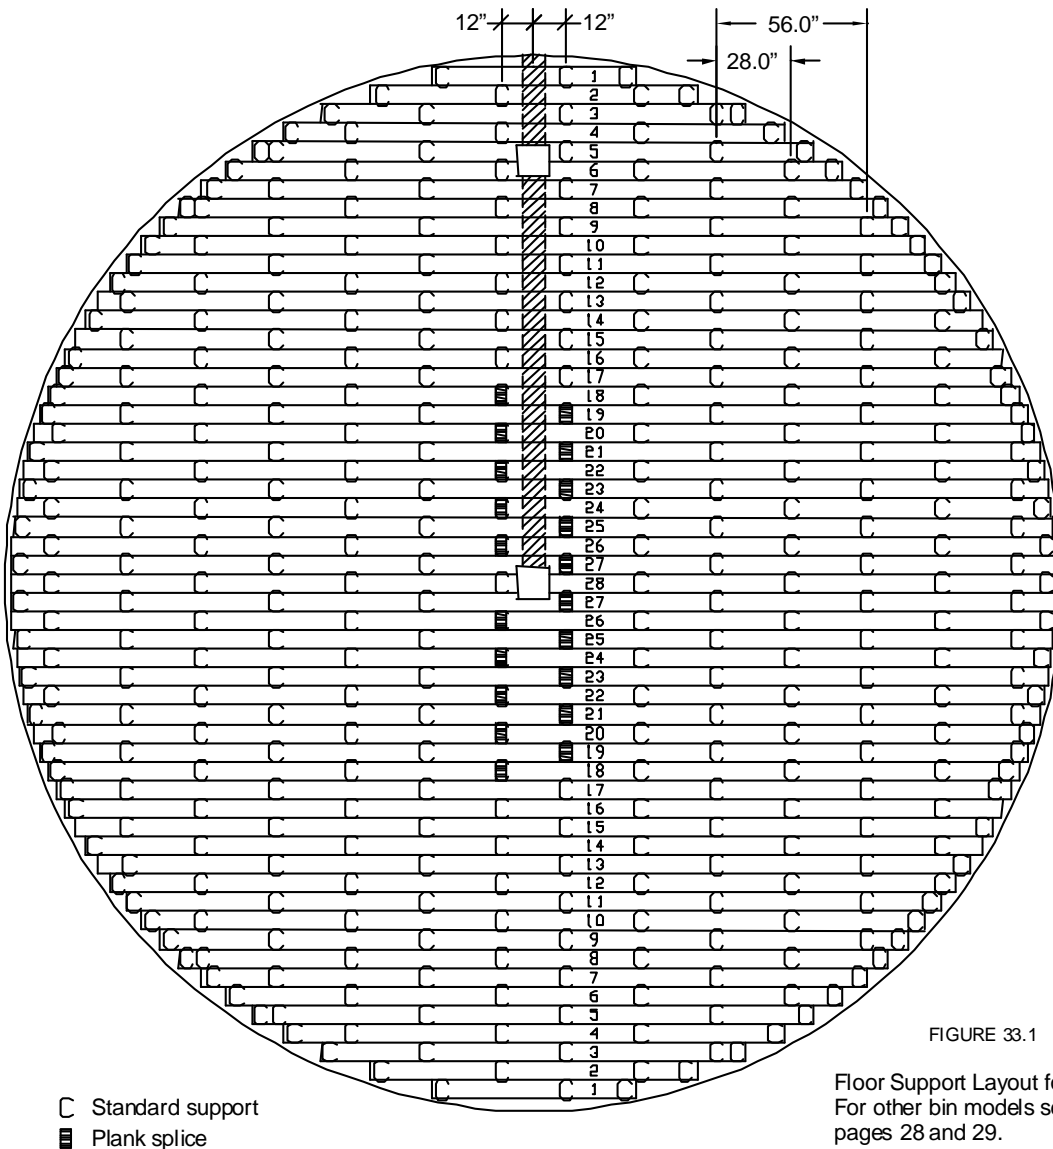

FIGURE 33.1
4. Unless otherwise noted, stagger all supports between adjacent floor planks, as illustrated in Fig. 33.1.
6. Where the clean-out auger prevents a column from being placed on the main centreline, two columns should be placed as close to each other as possible on either side of auger tube, but staggered from plank to plank as illustrated in Fig. 33.1.